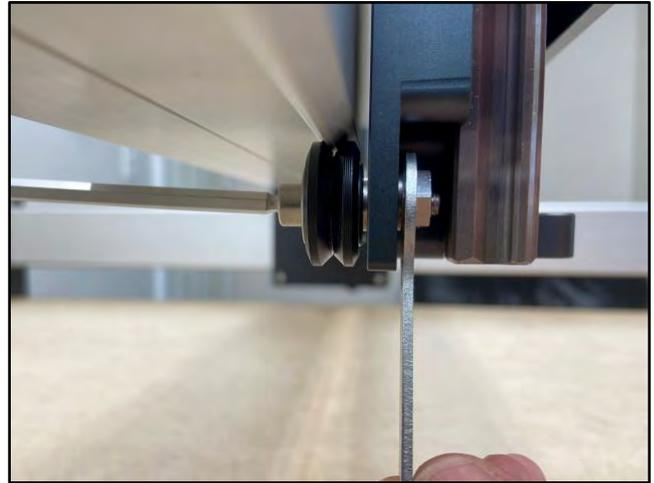

Figure 26
3. Install the bottom two V-wheels on the back of the HDZ. **Fig. 26** and **27**.